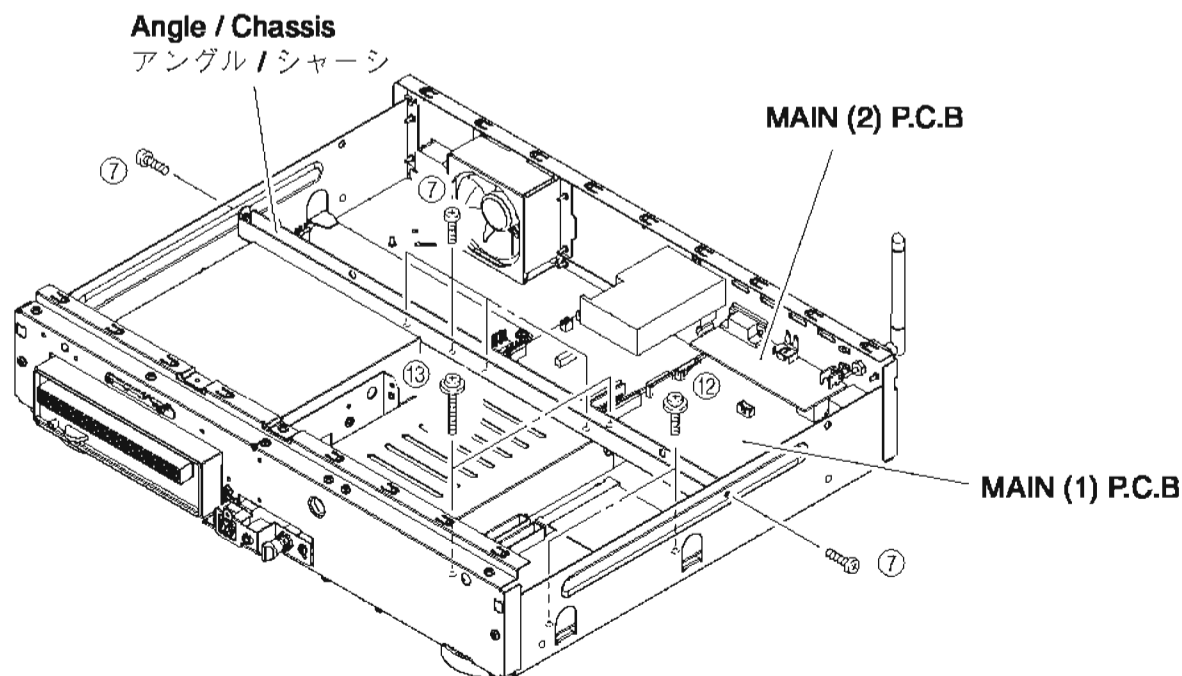
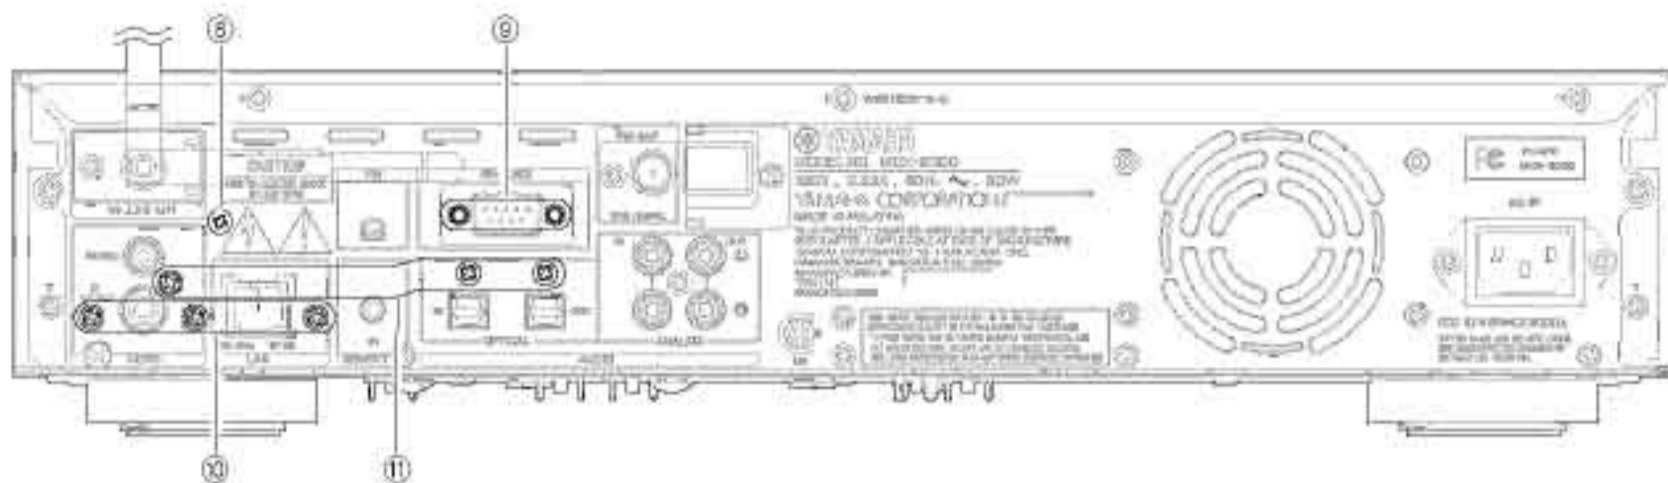
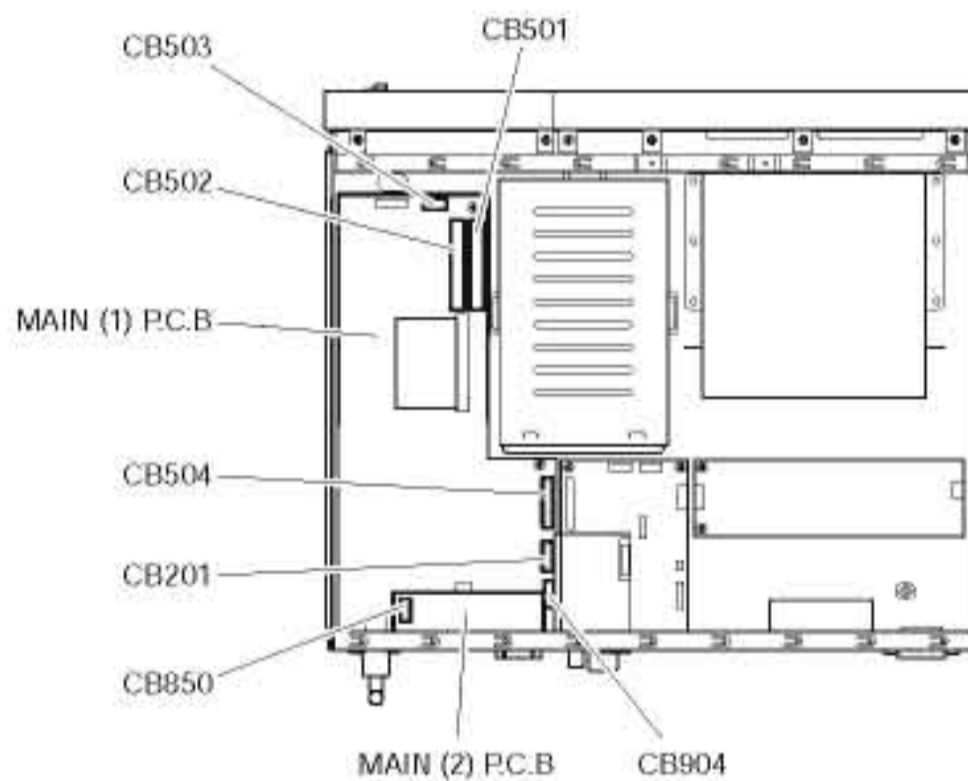

Fig. 3
Fig. 4
Fig. 5
3. Removal of MAIN (1) and (2) P.C.B.
- a. Remove 6 screws (⑦). (Fig. 3)
- b. Remove the Angle/Chassis. (Fig. 3)
- c. Remove 1 screw (⑧) and 2 Jack screws (⑨). (Fig. 4)
- d. Remove CB850. (Fig. 5)
- e. Remove the MAIN (2) P.C.B..
- a. ⑦のネジ6本を外します。(Fig. 3)
- c. ⑧のネジ1本、⑨のジャックスクリュー2本を外します。(Fig. 4)
- d. CB850を外します。(Fig. 5)
- f. Remove 3 screws (⑩) and 3 screws (⑪). (Fig. 4)
- g. Remove 2 screws (⑫) and 2 screws (⑬). (Fig. 3)
- h. Remove CB201, CB501~CB504 and CB904. (Fig. 5)
- i. Remove the MAIN (1) P.C.B..
- f. ⑩のネジ3本、⑪のネジ3本を外します。(Fig. 4)
- g. ⑫のネジ2本、⑬のネジ2本を外します。(Fig. 3)
(Fig. 5)